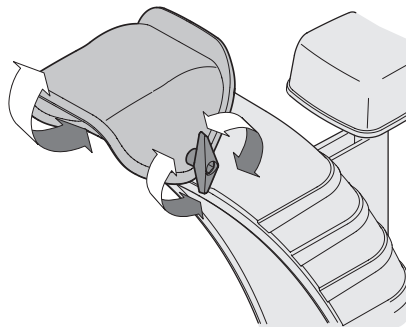

Figure 2-53
1. Loosen wing knob found on left side of chute assembly. See Figure 2-53.